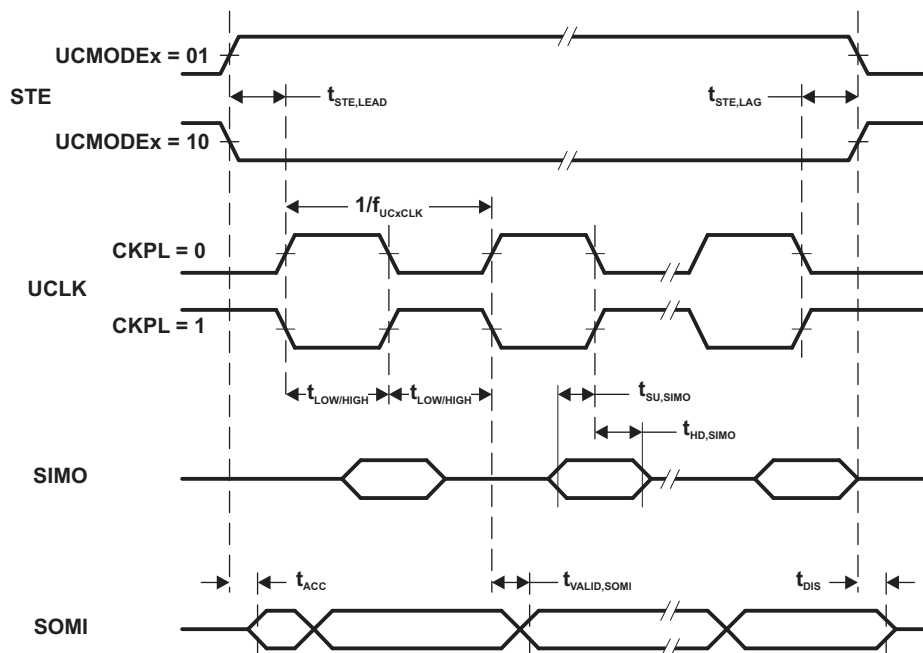
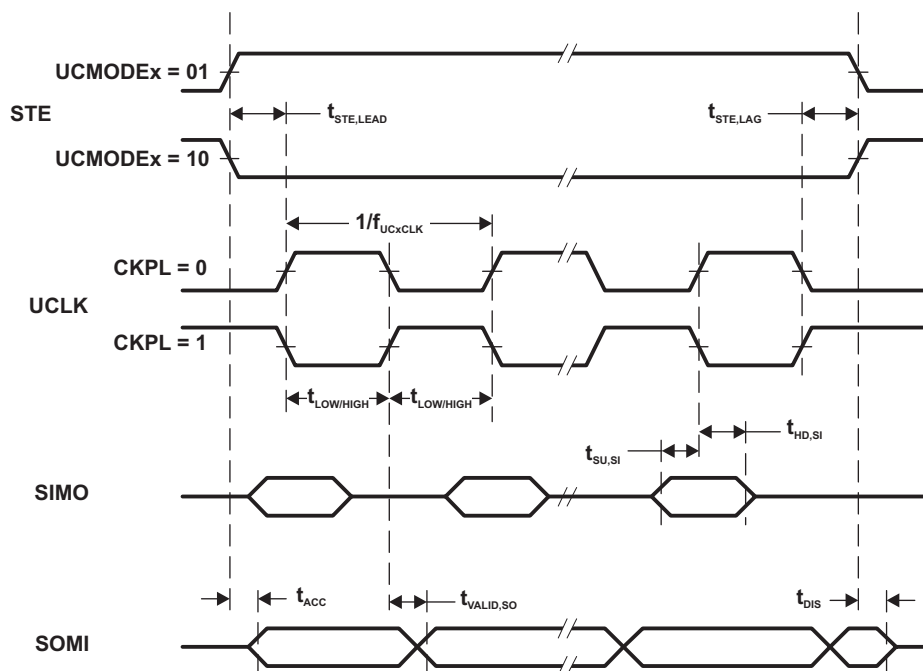

Figure 15. SPI Slave Mode, CKPH = 0
Figure 16. SPI Slave Mode, CKPH = 1
- Specifies the time to drive the next valid data to the SOMI output after the output changing UCLK clock edge. See the timing diagrams in Figure 15 and Figure 16.
- Specifies how long data on the SOMI output is valid after the output changing UCLK clock edge. See the timing diagrams in Figure 15 and Figure 16.